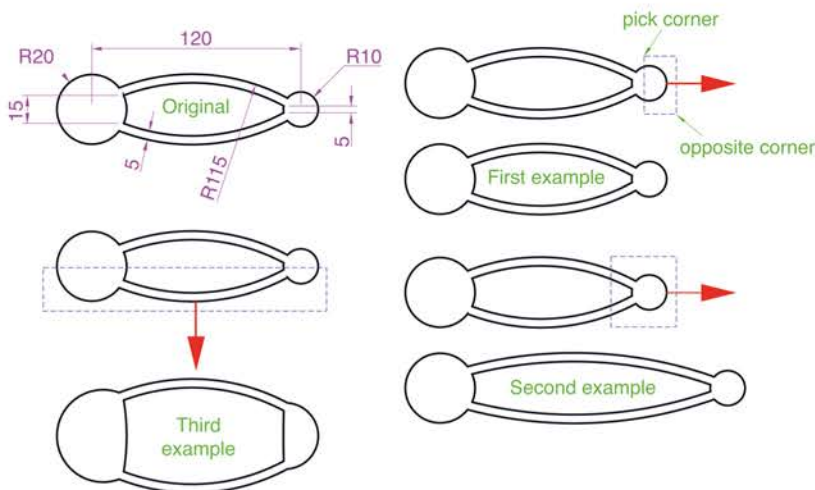

Fig. 6.30 Examples – Stretch
EXAMPLES – STRETCH (FIG. 6.30)
1. Construct the drawing labelled **Original** in Fig. 6.30, but do not include the dimensions. Use the **Circle**, **Arc**, **Trim** and **Polyline Edit** tools. The resulting outlines are plines of width = 1. With the **Copy** tool, make two copies of the drawing.
In each of the three examples in Fig. 6.30, the broken lines represent the crossing windows required when **Stretch** is used.
1. When circles are windowed with the crossing window, no stretching can take place. This is why, in the case of the first example in Fig. 6.30, when the **second point of displacement** was *picked*, there was no result – the outline did not stretch.